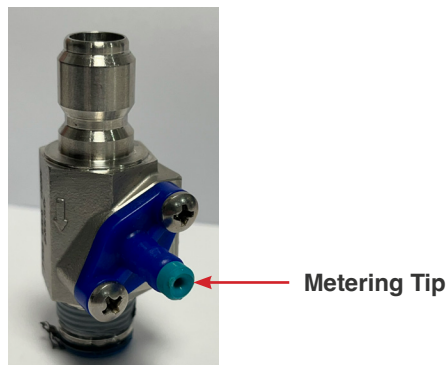

Fig. 7.4 - 1 - Metering tip replacement
2. Unscrew metering tip (Fig. 7.4 - 1).